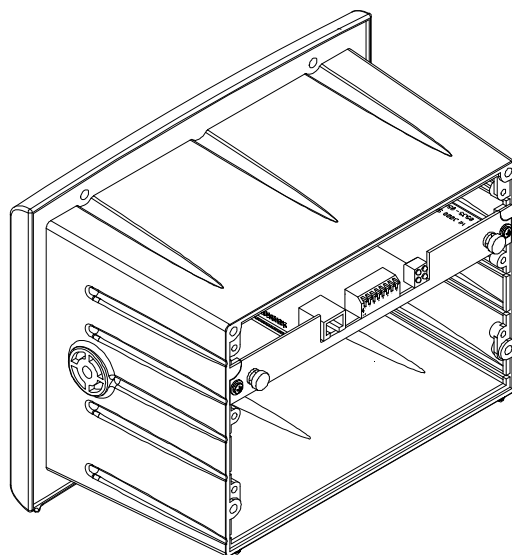

FIG. 65: ETHERNET/IP OPTION CARD INSTALLED
- Step 4. Use a phillips head screw driver and install the two (2) screws that fasten the EtherNet/IP card panel to the HI 3000 Instrument Chassis. (See Fig. 65)